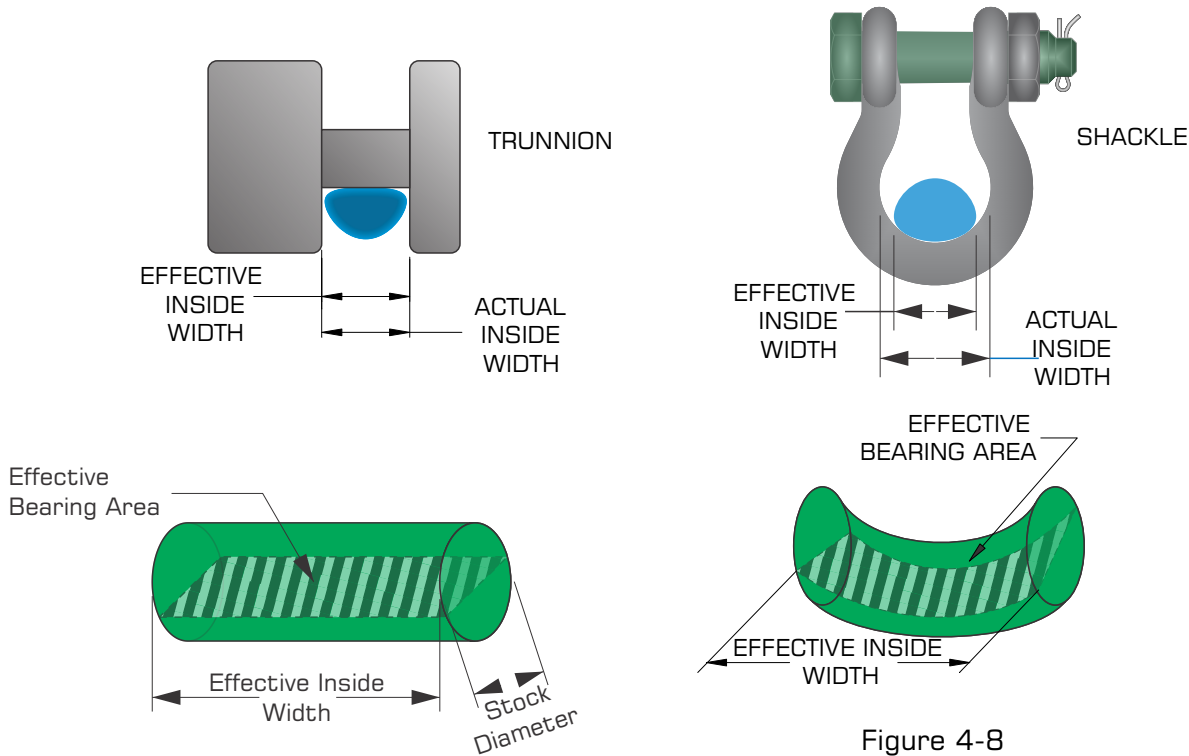

Figure 4-8
a. Connection to Flat-Bottom Surfaced Hardware – Such hardware connections include pins, bolts and trunnions. The value of the effective contact width is equal to the opening width or spread of the sling at the connection area (See Figure 4-7). Please note, however, that the effective contact width will never exceed the natural flattening width of the sling as listed in Tables 4-6 and 4-7. b. Connection to Round-Bottom (or Curved) Surfaced Hardware – Such hardware connections include links, hooks, or the bow ends of shackles. To determine the value of the effective contact width, multiply the inside opening width of the hardware by a factor of 0.75 (See Figure 4-8). For connections to the base of hooks, multiply the value of the radius at the hook base by a factor of 1.5 to determine the effective contact width. Please note, however, that the effective contact width will never exceed the natural flattening width of the sling as listed in Tables 4-6 and 4-7.